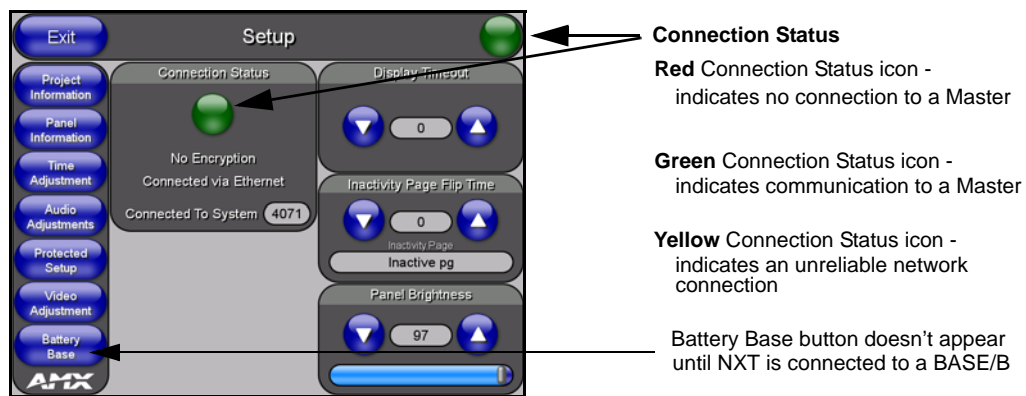

FIG. 50 Setup page
1. Press the grey Front Setup Access button for **3 seconds** to open the Setup page (FIG. 50).